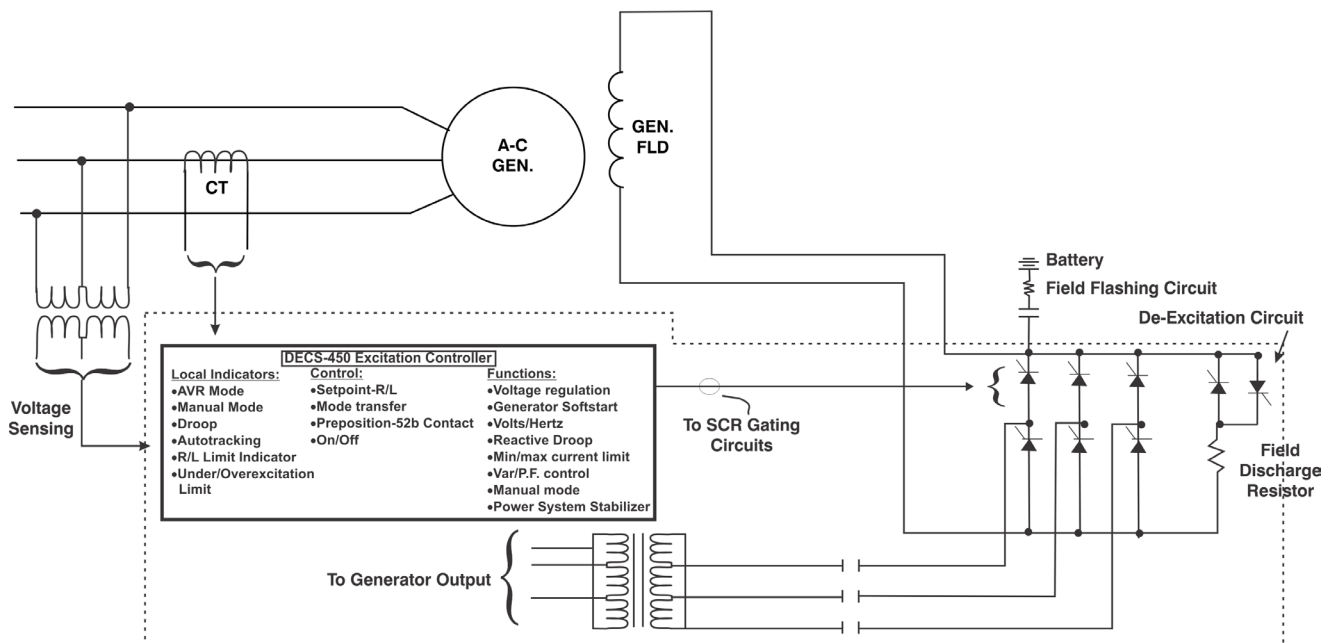

Figure 6: The replacement of the Amplidyne and rotating exciter for a modern static exciter interfacing to the main field.
1. The Amplidyne and the rotating exciter can be replaced with a static exciter that works directly into the main generator field using a DECS-450 excitation system. See Figure 6.
Figure 6 highlights the interface of the static exciter to the main field. The static exciter power bridge provides dc into the field. The excitation system is equipped with both positive and negative field forcing to improve generator voltage recovery time. A field discharge resistor accompanied by a solid state field discharge circuit eliminates the need for the dc field breaker. SCRs are connected in anti-parallel across the field with a series discharge resistor to provide an alternate energy path to discharge the field energy. The excitation system output ratings are selected based upon the generator full load field excitation requirements.